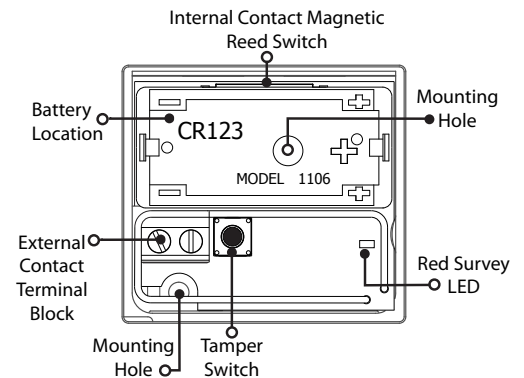

Figure 2: 1106 PCB Layout
3. Place the 3.0V lithium battery in the holder as shown in Figure 2 and press it into place.